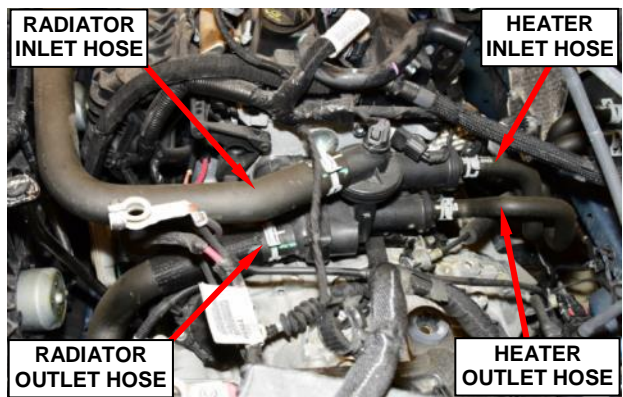

Figure 15 – Coolant Adapter
47. Disconnect the radiator inlet and outlet hoses and heater inlet and outlet hoses from the coolant adapter (Figure 15).